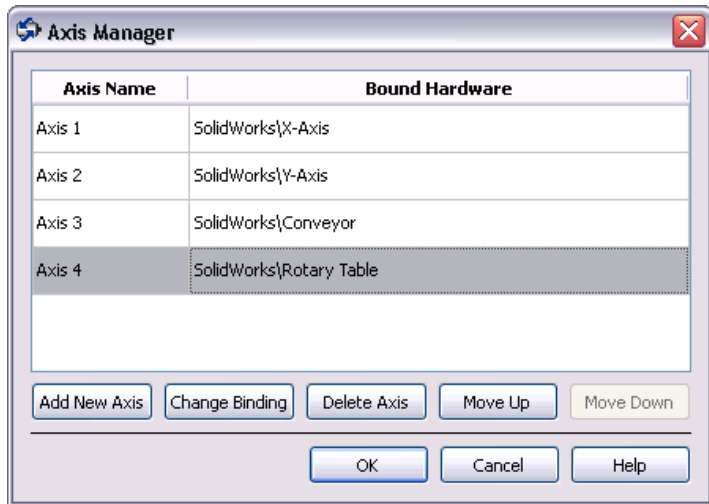

Figure 2. Axis Manager Dialog Box
- Right-click **My Computer** in the **Project Explorer** window and select **New»NI SoftMotion Axis** from the shortcut menu to open the **Axis Manager** dialog box, shown in Figure 2.